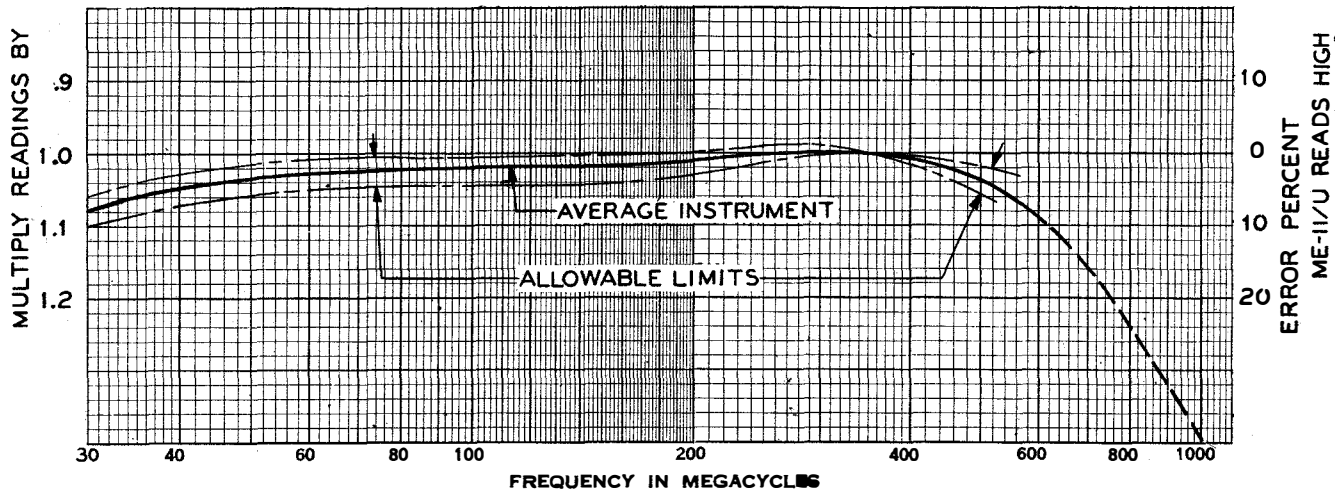

Fig. 2-6. Power Calibration vs. Frequency — RF Wattmeter ME-11/U
11. POWER CALIBRATION VS. FREQUENCY (See Fig. 2-6)
a. Fig. 2-6 shows the frequency error of the average wattmeter. The limit curves indicate the maximum deviations allowed in calibration.